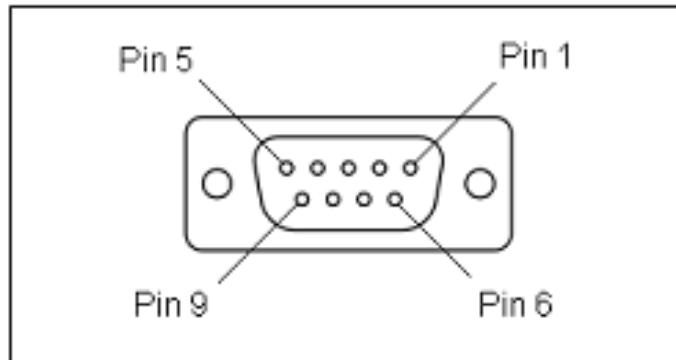

Figure 6: DB-9 Female Connector Pinout
Configurations ii) and iii) below have power inputs of 90V-264V AC. All enclosures have the RF input/output signals provided on external BNC connectors. The TTL inputs are routed through female DB-9 input connectors., see Figure 6 below for the pinout. The active TTL signal needs to be connected to pin 4, with the corresponding ground line connected to pin 8. Available enclosure configurations are listed on the next page.
1) PA100W module enclosed in a single bay enclosure With an integrated +24 V power supply – Figure 6